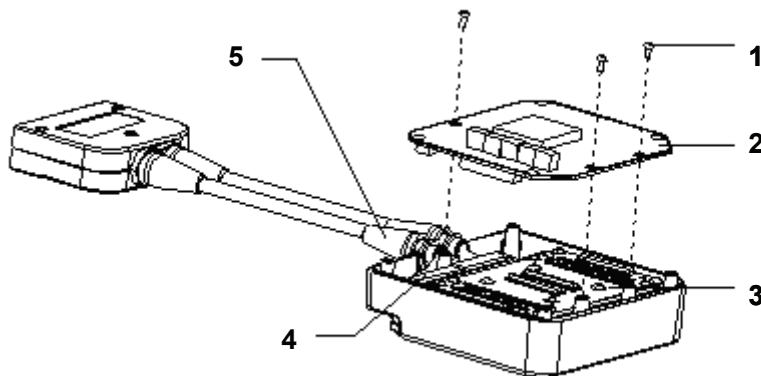

Figure 4-37 Removing Transducer Extension Module (2)
- 3) As shown in Figure 4-37, remove three M3×6 Philips panhead screws.